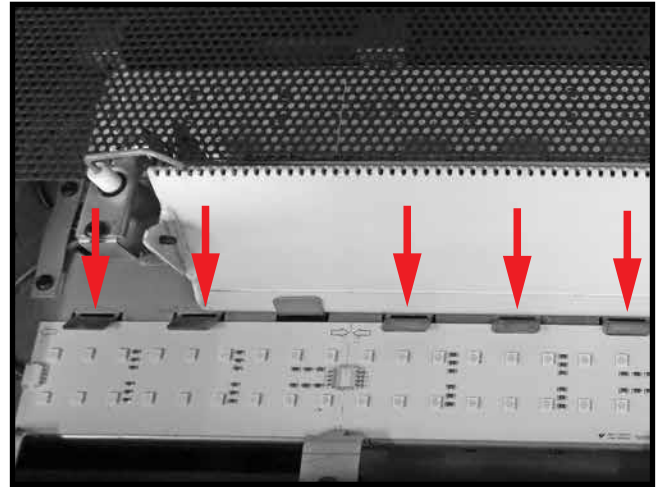

Figure 64: LED strip hold down tabs.
6. The LED sections and rows are held in place by hold down tabs (Figure 64). These tabs can be lifted up so that the LED section can be removed.